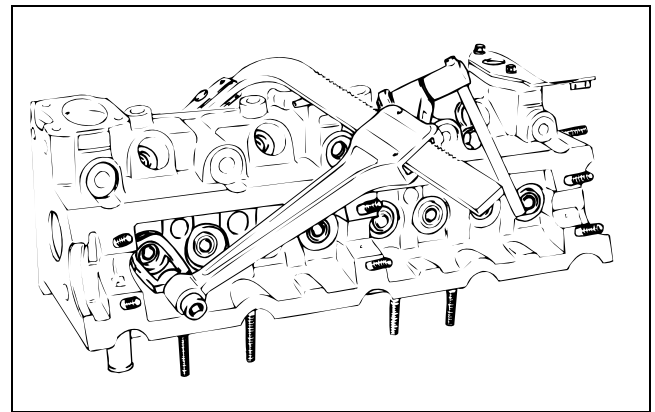

Figure 66
3. Use a valve compressor to remove the eight valves (Fig. 66).